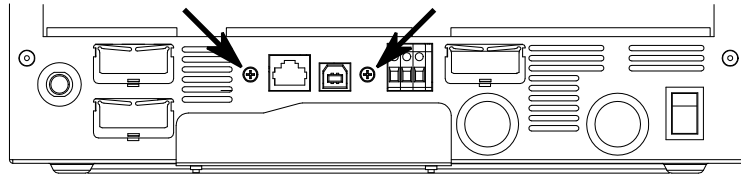

Figure 3: Screw location of communication card
3. Remove the communication board by removing the two screws on the bottom of the inverter as shown in *Fig. 3*, and then sliding out the communication board toward the top. These screws will be required later.